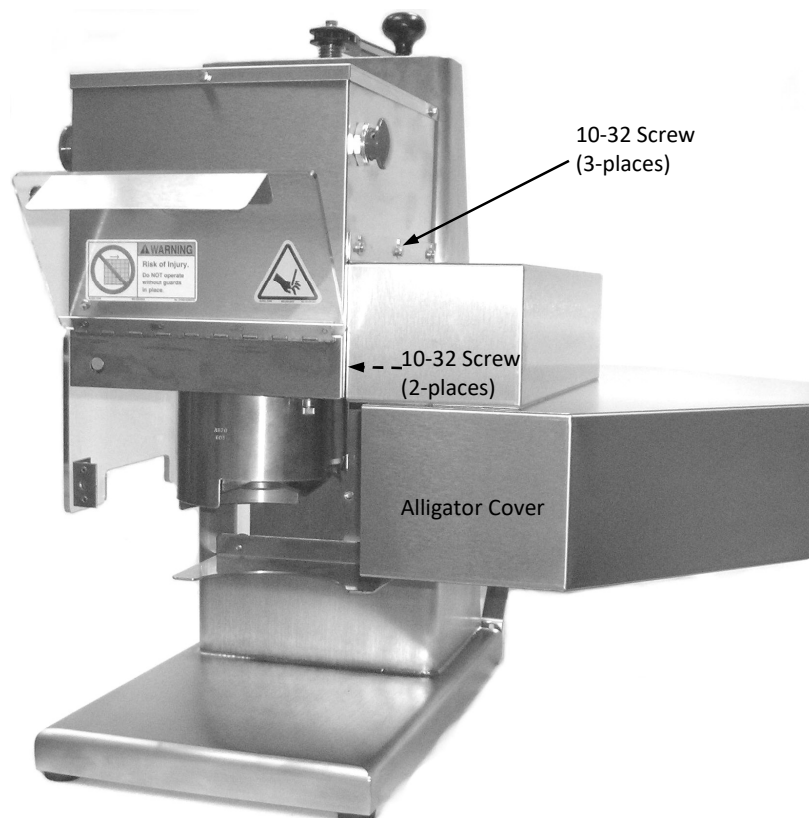

Figure 3
1. Using a 5/16" Wrench, remove the five (5) 10-32 x 3/4" Hex Head Screws and remove the Alligator Cover (Figure 3).